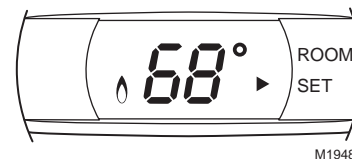

Fig. 17. Temperature setpoint display.
1. Turn the dial one click to display the temperature setpoint. An ► indicator points to Set when the temperature setpoint is displayed (see Fig.17).